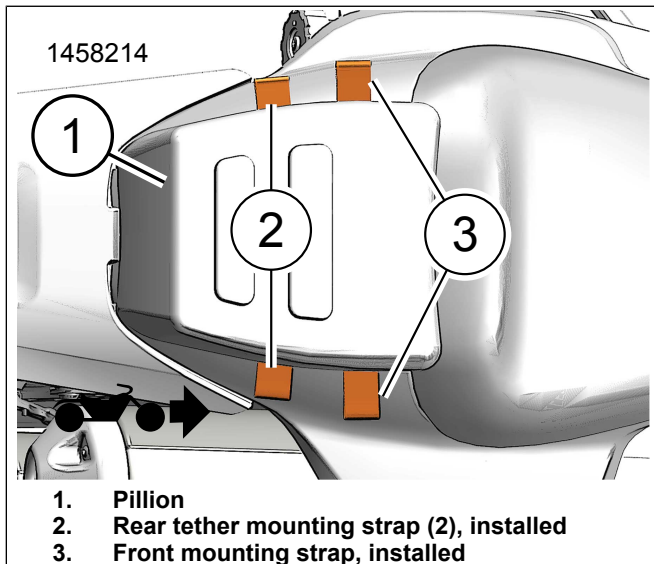

Figure 3. Tail Bag straps and Pillion Install
3. Figure 3 Install pillion (1). See service manual.